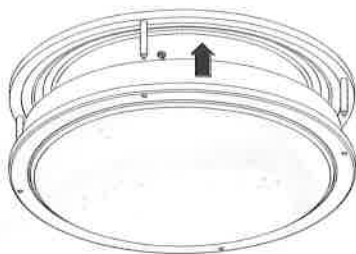

Fig 5
6. Securely mount the fixture plate to the junction box firmly (figure 5).